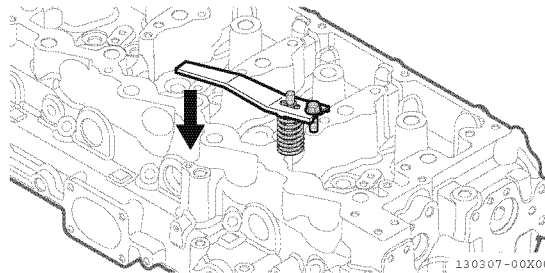

Fig.14-21
2. Using the valve spring compressor tool, compress the valve spring (Fig.14-21).